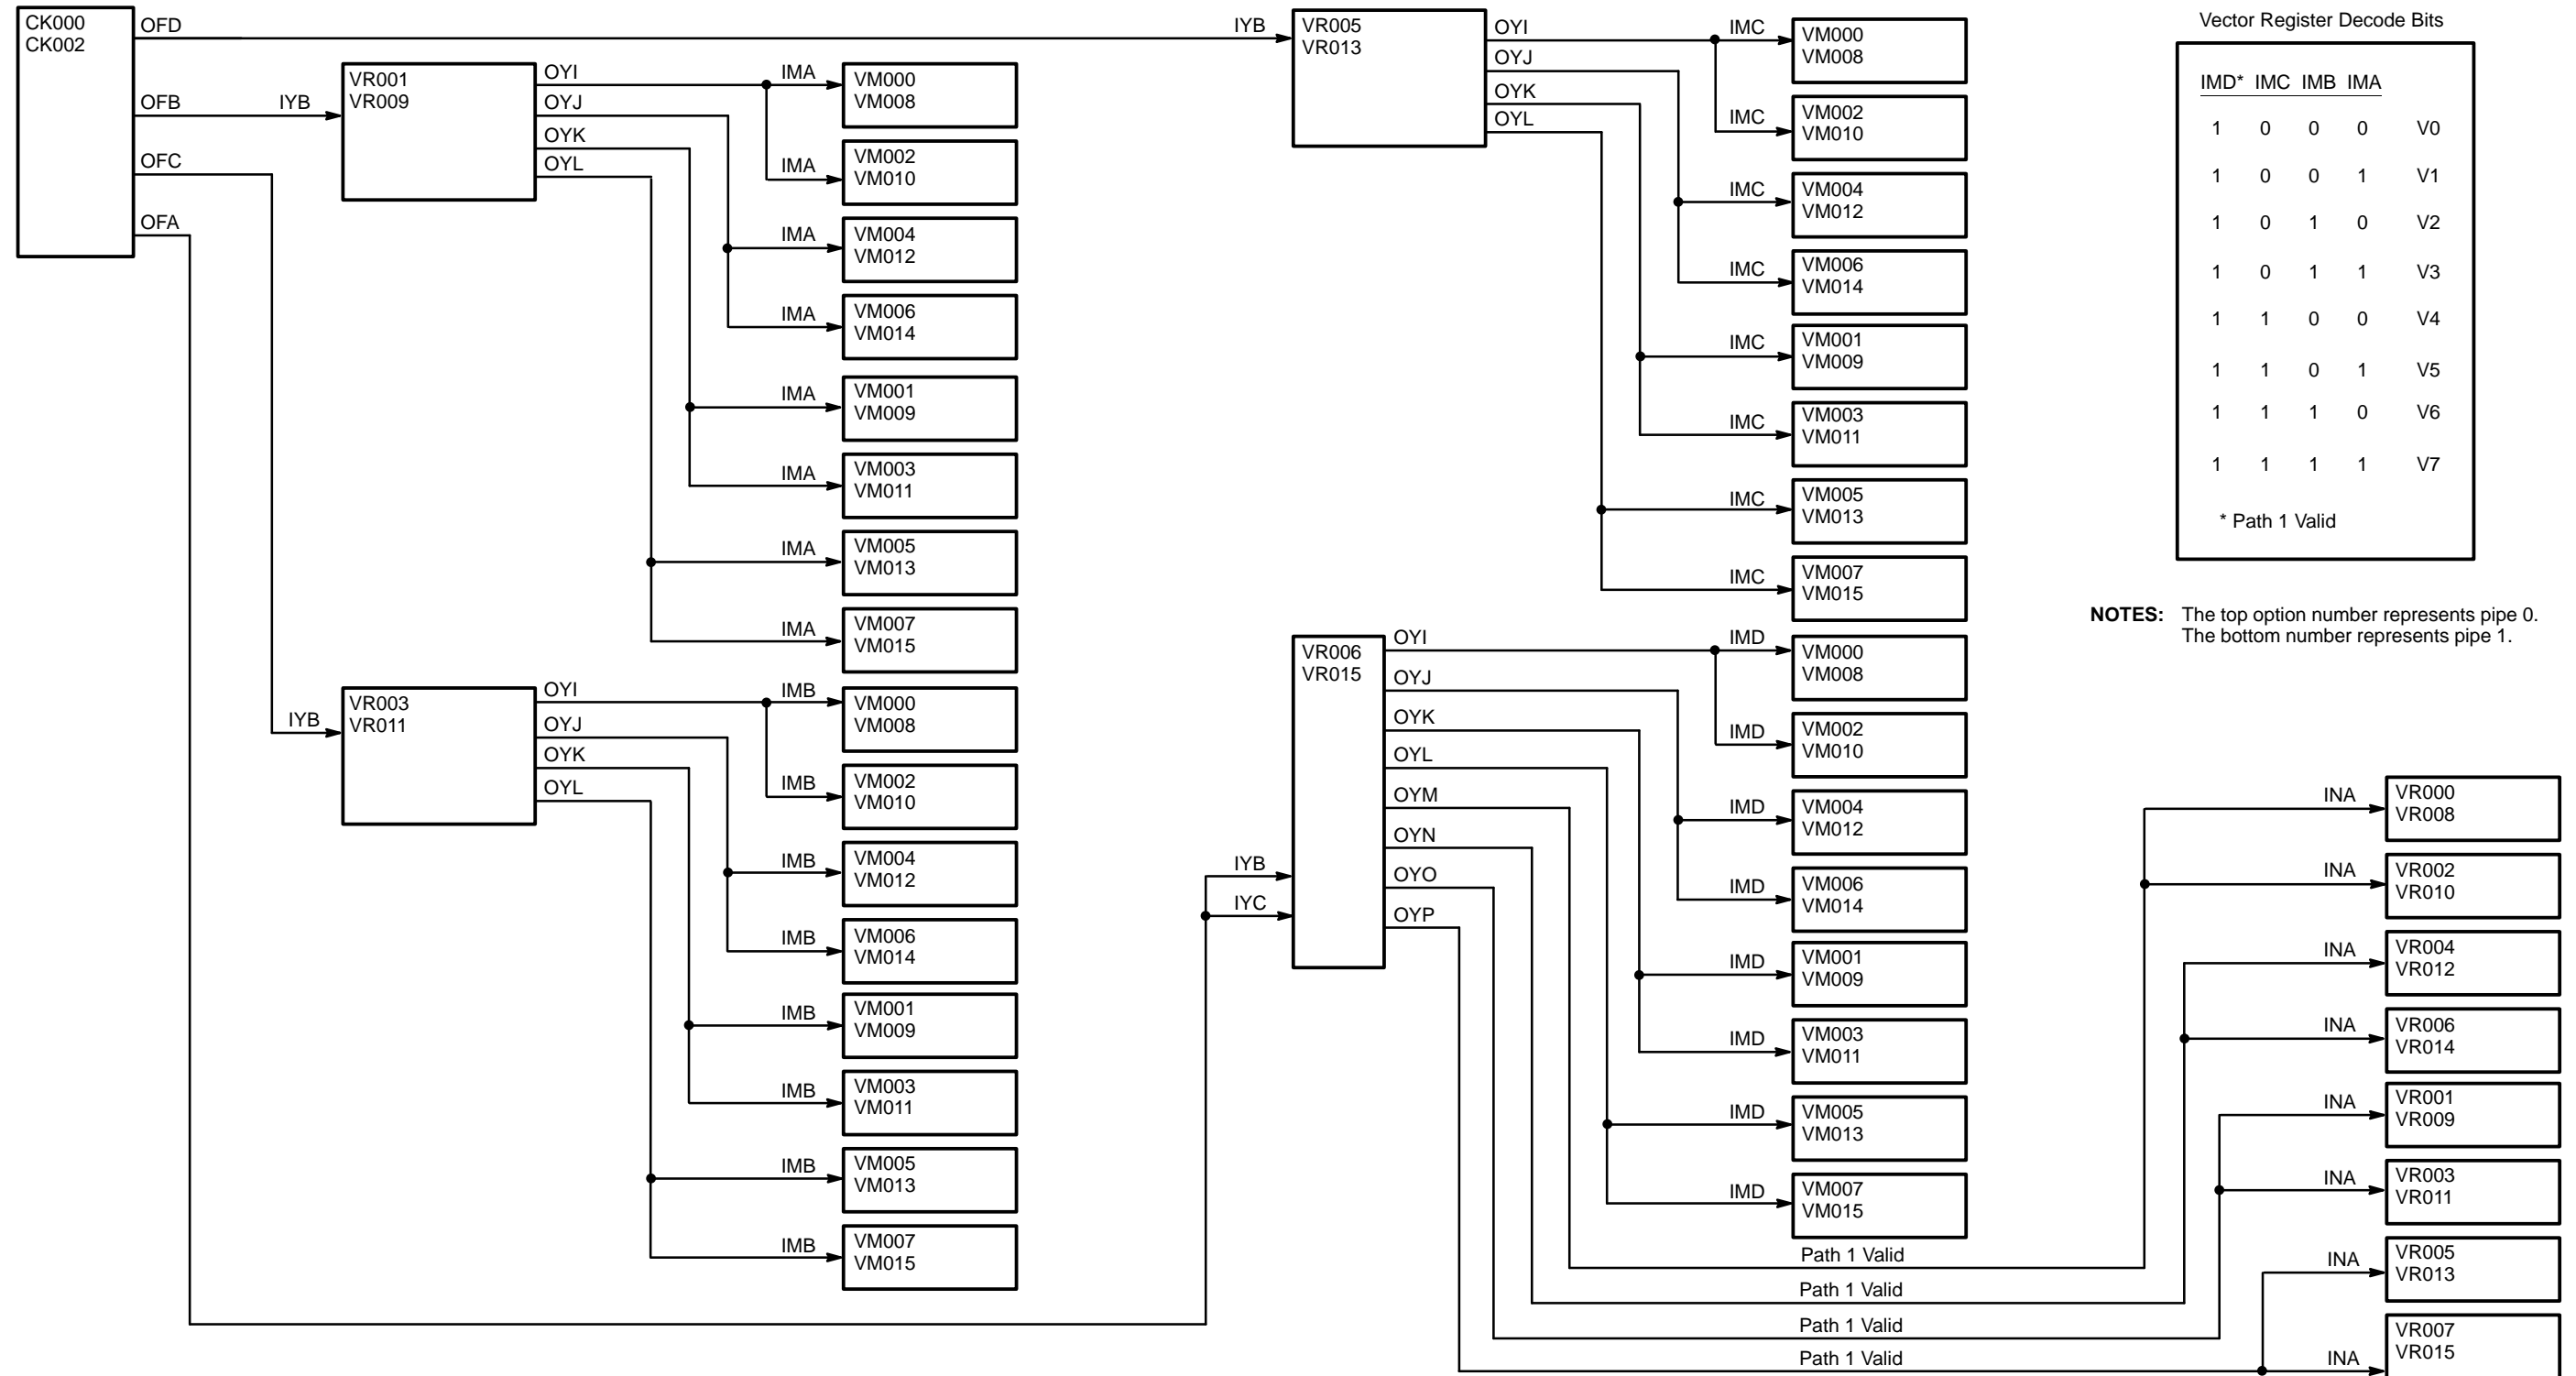

Figure 42. Vector Register Decode Bit Fanout (Pipe 0 and 1 Path 1 Only)
- Figure 42 – vectors 4 through 7 pipe 0/1 write data path